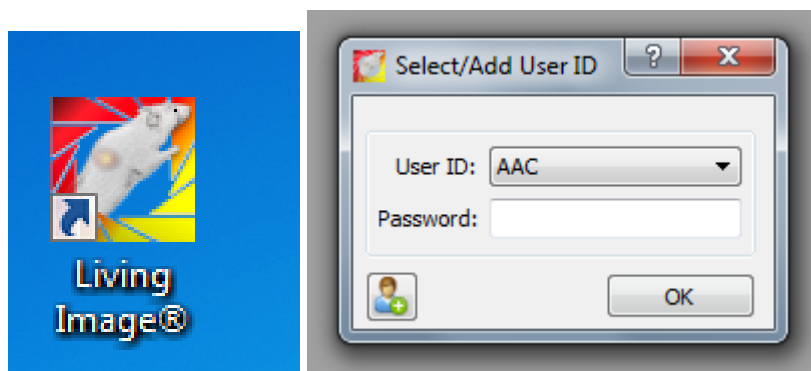

Figure 6: The figure above shows the Living Image desktop icon and the Select/Add User window.
2. Double click the Living Image application on the desktop. Select your user ID, or create a User ID by clicking the + icon located on the pop-up window. You are not required to enter a password. See Figure:6